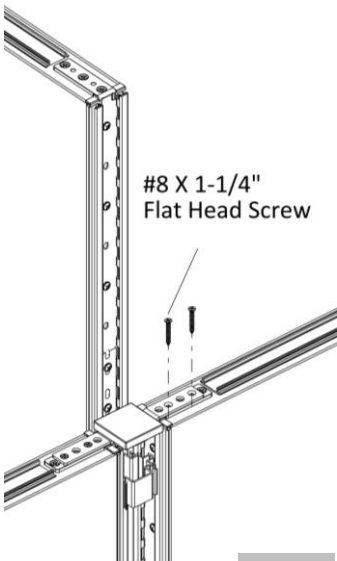

Figure 9
- Drive two #8 X 1-1/4" Flat Head Screws through the holes in straight top connector into the third panel, (Figure 9).